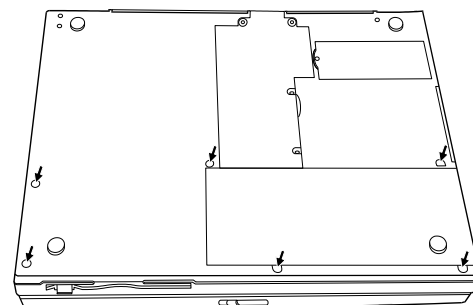

Figure 5-17. Removing Six Bottom Screws
7. Replace the six bottom screws.(fig 5-17)